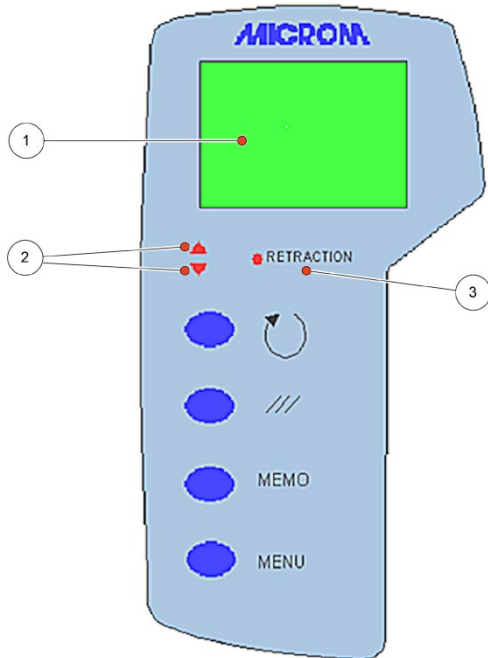

Fig 7
The ergonomically shaped operating panel has a large, illuminated graphical display, Fig 7 (1) showing clearly the respective operating states and settings.
The two arrow-shaped LEDs, Fig 7 (2) blink, when the specimen is just in its upper or lower end position.
Another LED, Fig 7 (3) shows that the specimen clamping is just in its retraction (if retraction is turned on) while the knife sledge is drawn backwards.